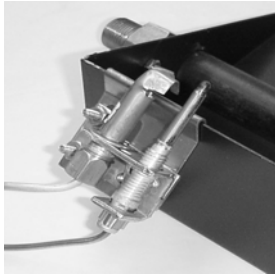

Fig 1
Step 16) Light pilot by pushing control in slightly and turning to the Pilot@ position. Push knob all the way in and every 10 seconds apply flame to the pilot burner. (Pilot burner will not light until all air is bled from lines). After pilot lights hold knob in for 30 to 60 seconds until it will stay lit when you release knob. If your kit is spark igniter equipped, light pilot by first pushing control knob in slightly and setting to the AIGN@ position. Push knob in as far as you can, then turn to Pilot@ position. This will cause spark to jump from electrode to the front, top edge of pilot burner hood across the 1/6" gap shown in figure 1.
Assemble pilot to mounting bracket with two screws and nuts supplied in the parts bag (as shown in Fig 1). The bracket is slotted allowing you to adjust the pilot up and down. We recommend that the flame just clear the top of the burner pan